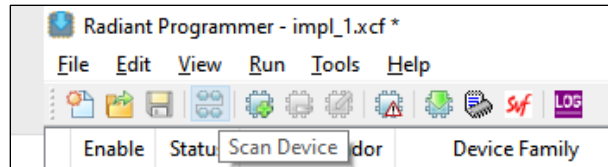

Figure 7.11. Scan Device Icon on Radiant Programmer
- If the Device Family shows as Generic JTAG Device, click **Scan Device** as shown in Figure 7.11 to update the Device Family information automatically.